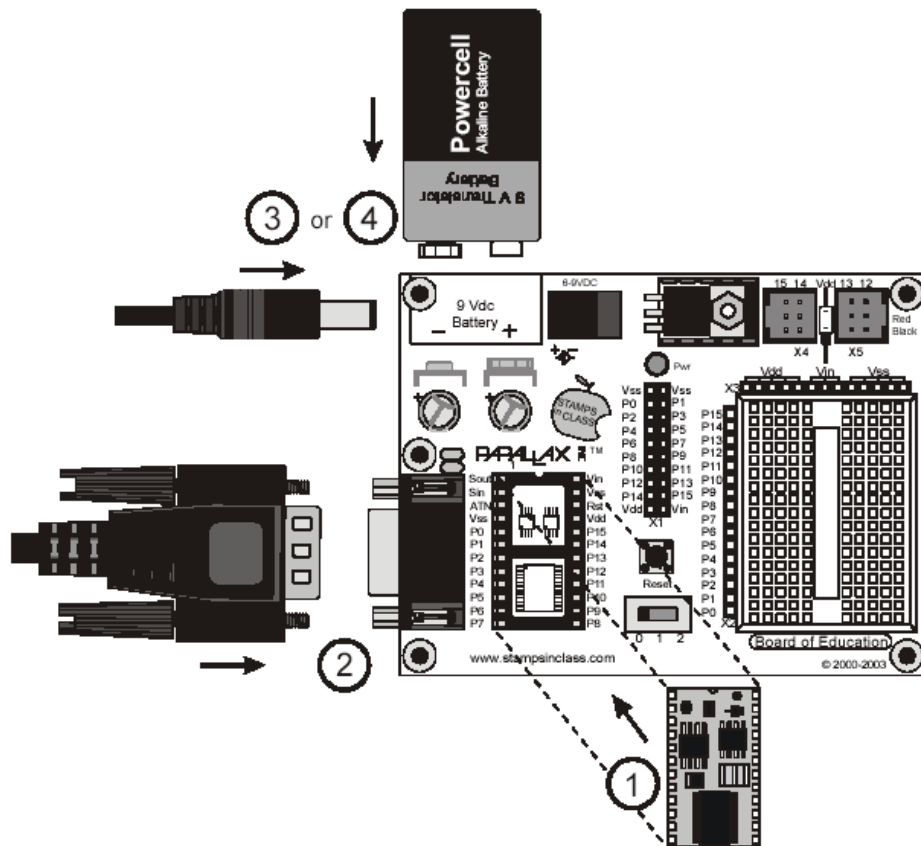

Figure 3
Caption: Figure 3: The Basic Stamp module (1) should be connected to the Board of education as shown. The reset switch is the round button in the middle of the board, directly above the 3-position switch (0-1-2).
Image file name: Board of Education_Fig3.png